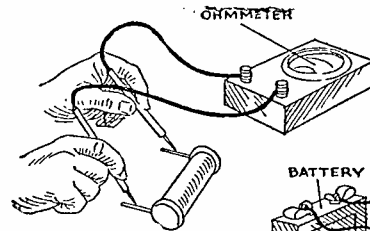

FIG. 40
**Testing For Open Circuits:** Tracing an open circuit sometimes is referred to as continuity testing. For this, some ohmmeter arrangement, such as shown in Fig. 40, presents the best check since the resistance, as well as the continuity of the wire, can be tested.